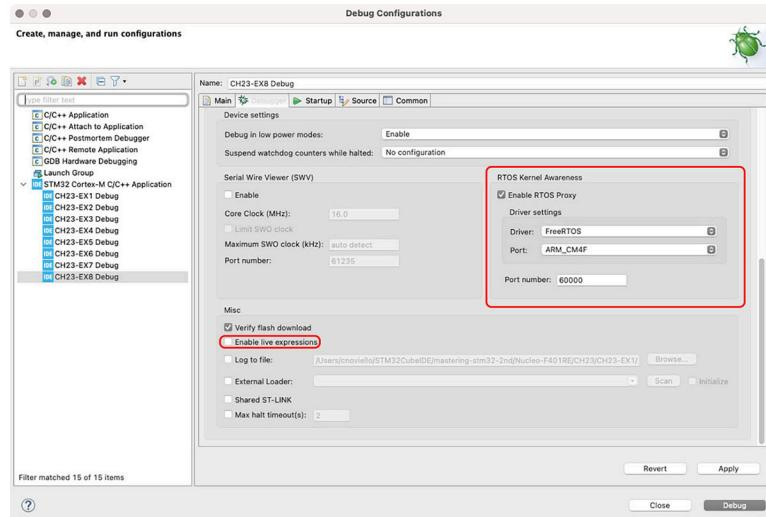

Figure 23.25:
The Kernel-Aware debugging requires a dedicated support from the debugger, with a special proxy daemon spawned automatically by the STM32CubeIDE. To enable the FreeRTOS-kernel-aware debugging the Debugger tab in the Debug Configurations dialog contains settings to enable RTOS proxy, as shown in **Figure 23.25**. Once the **Enable RTOS Proxy** flag is checked you have to select the driver for FreeRTOS and the Cortex-M core corresponding the target MCU. It is strongly suggested to leave the port number to 60000.
- Live expressions must be disabled when used with the ST-LINK GDB server (see Figure 23.25).